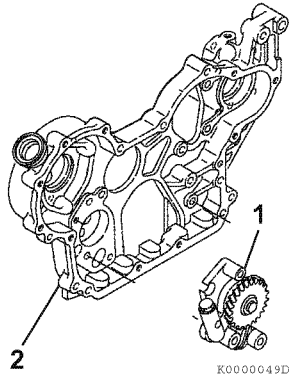

Figure 9-24
2. Remove the oil pump assembly bolts. Remove the oil pump assembly (1, **Figure 9-24**) from the gear case housing (2, **Figure 9-24**).